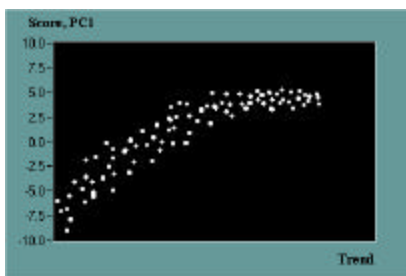

Figure 3: PC1 Versus Observation – Giving a Trend-Plot
- Score plotted versus number of observation gives us a trendplot with information about how the process evolves and major trends and dynamics in the data. We can follow the blending process and decide when the end-point is reached. (See Figure 3.)